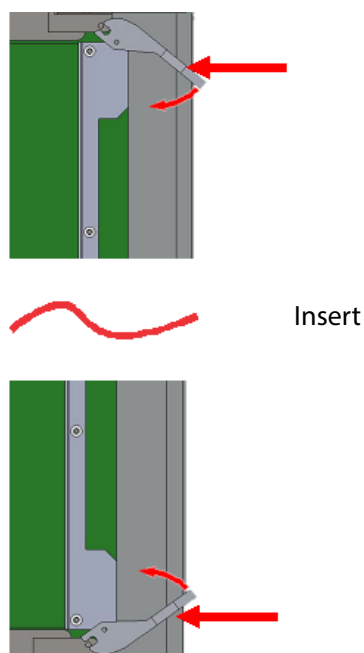

Figure 26 Inserting a Front Module with Levers
- When the module is nearly fully in the frame, gently push the module levers. See Figure 26